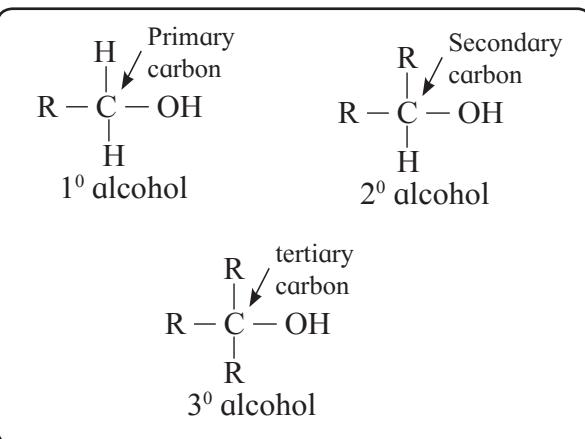

Fig. 11.1 : Primary, secondary and tertiary alcohols
a. Alcohols containing sp^3 C - OH bond : In these alcohols -OH group is attached to a sp^3 hybridised carbon atom of alkyl group. These alcohols are further classified as primary (1°), secondary (2°) and tertiary (3°) alcohols in which -OH group is attached to primary, secondary and tertiary carbon atom respectively. (see Fig. 11.1), refer to Std. XI Chemistry Textbook Chapter 14, sec. 14.3.2)